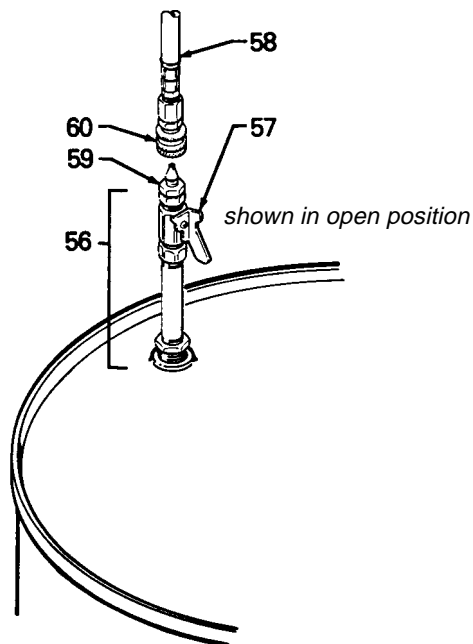

Figure 8
- a. Close the feed pump air inlet valves or regulators (8). See the Typical Installation on page 5.
- b. Close the heater drain valve (61). See the Typical Installation.
- c. Close the air valve (214) to the proportioning pump air motor. Refer to the Typical Installation on page 5.
- e. Open the proportioning pump fluid intake valves (230). Refer to the Typical Installation.
- f. Open the main air line shut-off valve (1). Refer to the Typical Installation.
- g. Adjust the Air Dryer (9). See Figure 8.